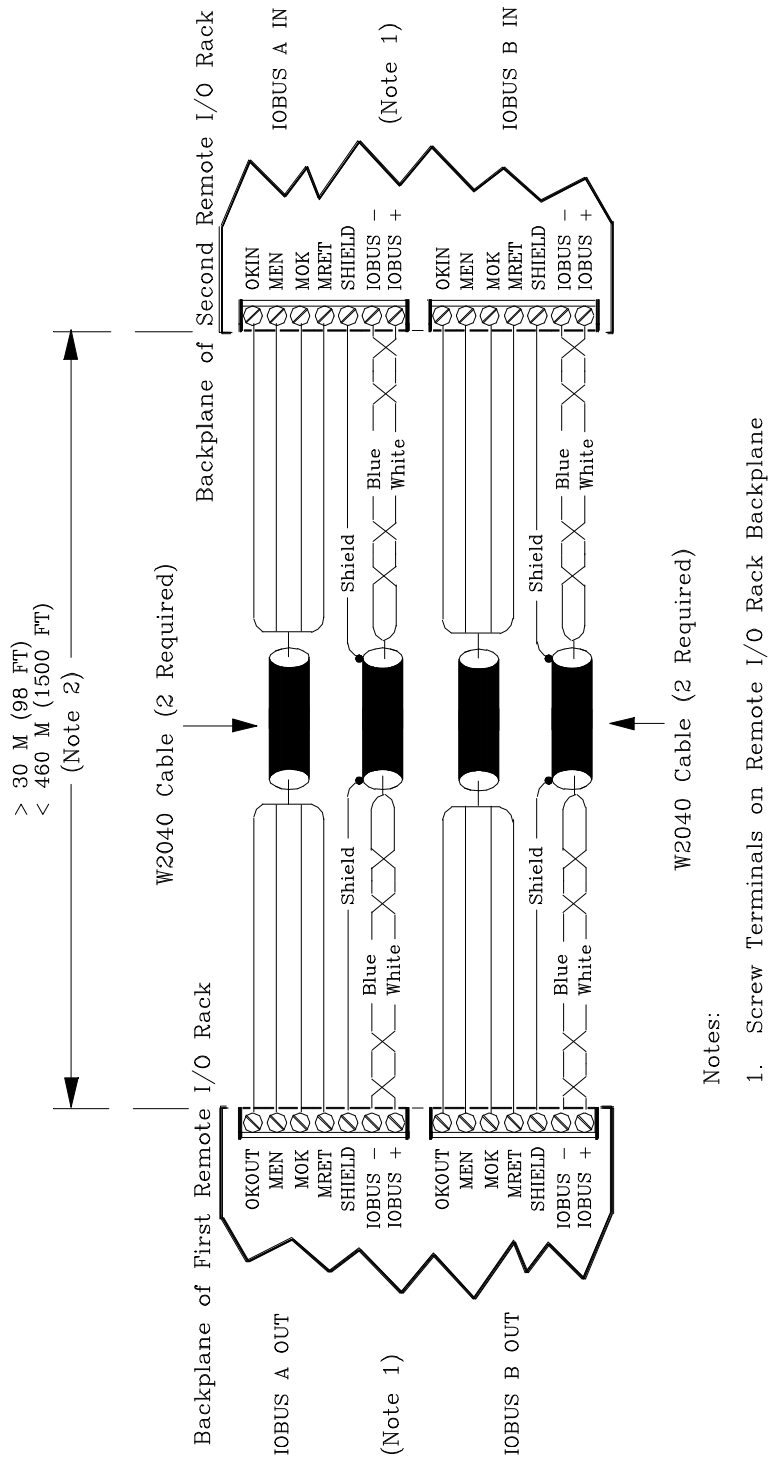

Figure 2-19 Rack to Rack W2040/8627 IOBUS Cabling up to 1500 ft. (460 m) for Node-to-Node Redundant APACS+ and All QUADLOG Systems
2. At the appropriate IOBUS OUT screw terminals on the first Remote I/O Rack's backplane (Figure 2-4), provide strain relief for the W2040 and 8627 cable ends by securing them to the rack's tie points (Figure 2-5). Connect the W2040 and 8627 cable conductors (wires) to the screw terminals as shown in Figure 2-19. Tighten screw terminals by applying 78 in oz (0.55 Nm) of torque. Wire stripping and color code information for making connections are provided in Table 2-1, and Figure 2-14 and 2-17.
3. At the appropriate IOBUS IN screw terminals on the second Remote I/O Rack's backplane (Figure 2-4), provide strain relief for the W2040 and 8627 cable end by securing them to the rack's tie points (Figure 2-5). Connect the W2040 and 8627 cable conductors (wires) to the screw terminals as shown in Figure 2-19. Tighten screw terminals by applying 78 in oz (0.55 Nm) of torque. Wire stripping and color code information for making connections are provided in Table 2-1, and Figure 2-14 and 2-17.